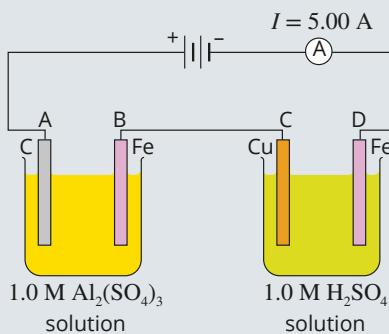

FIGURE 9.4.4 Electrolytic cells in series.
- d What will be the concentration of copper(II) sulfate remaining in solution?
- 19** Two electrolytic cells are connected in series as shown in Figure 9.4.4. A current of 5.00 A flows for 15.0 minutes.